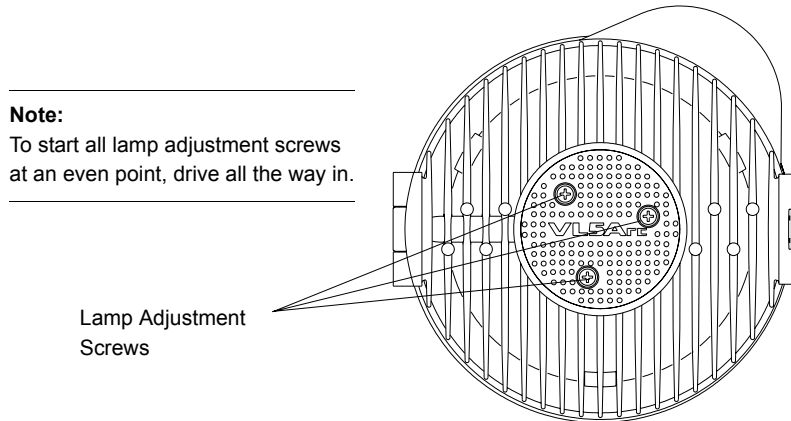

Figure 4-3: VL5Arc+ Lamp Adjustment Screws
- Step 11. Using lamp adjustment screws, adjust lamp (**Figure 4-3**).